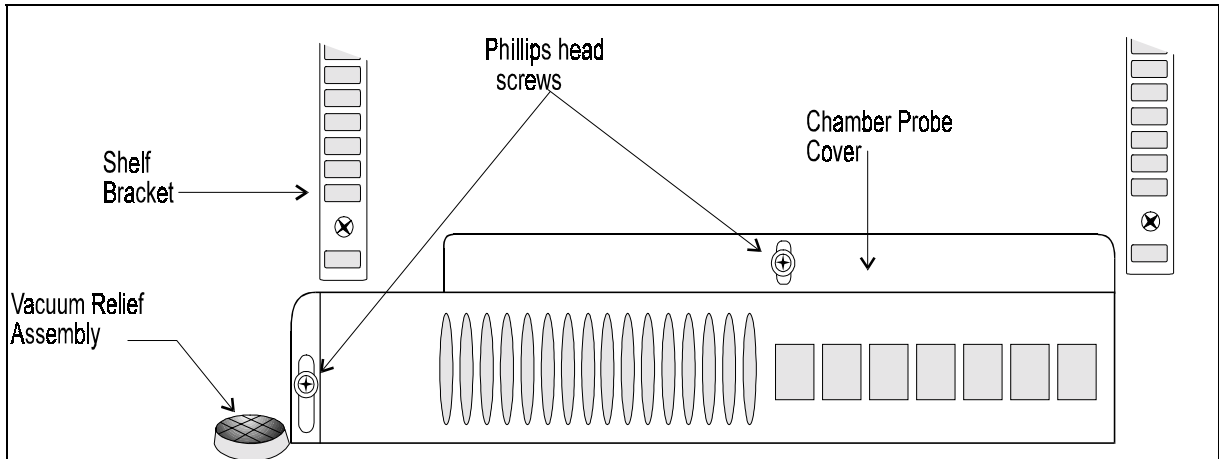
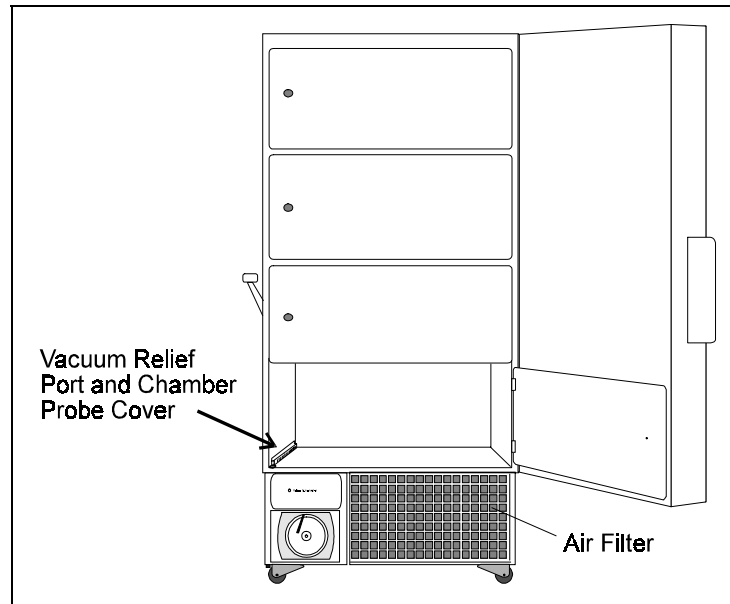

Figure 4-5
Figure 6-1
To clean the condenser, remove the front grill by grasping the assembly at the corners and gently pulling it away from the frame. Clean the compressor housings and condenser fins with a vacuum cleaner or air-hose. Other refrigeration system parts are cleaned by removing the back and side panels. (Refer to Figure 6-1.)
Note: Before replacing the grill, inspect the filter for cleanliness and clean or replace it if necessary. Refer to Figure 6-1.
6.3 Cleaning the Air Filter (refer to Figure 6-1)
6.6 Cleaning the Vacuum Relief Port (Refer to Figures 6-1 and 6-2 also Figures 4-5 and 4-6)